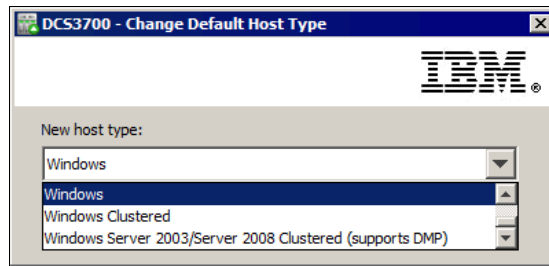

Figure 10-27 Change host type
1. Right-click the host on which the operating system must be changed in the Topology tree and select **Change Operating System**. The window that is shown in Figure 10-27 opens.